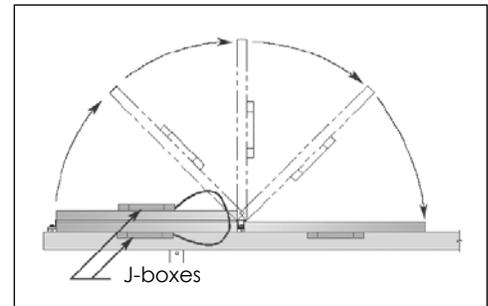
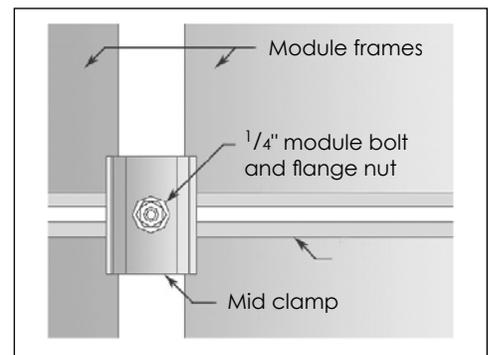

Figure 16
Figure 17
**Installing the Other Modules.** Lay the second module face down (glass to glass) on the first module. Connect intermodule cable to the second module and close the J-box cover. Turn the second module face up (Fig. 16). With T-bolts, mid clamps, and flange nuts, secure the adjacent sides of the first and second modules. Align the second module and securely tighten the flange nuts (Fig. 17).